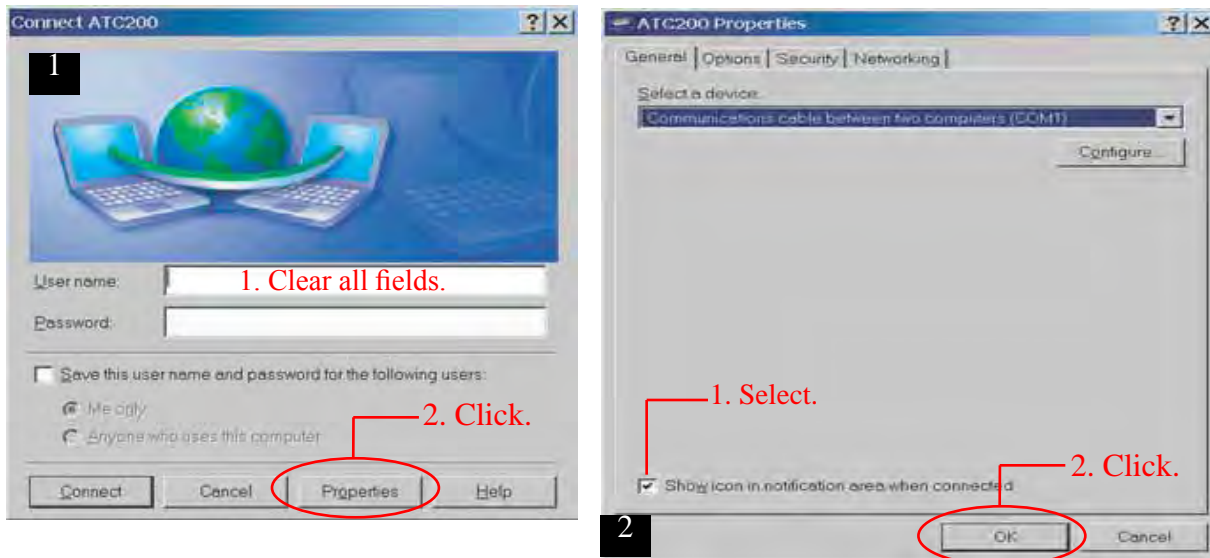

Figure 5-16. Configuring Serial Connection (Screens 1 through 2).
1. Leave all fields blank in the **Login** screen, and click on **Properties** (Screen 1, Figure 5-16).
3. Place a check mark in the box next to **Show icon . . .**, and click on **Configure** (Screen 2, Figure 5-16).